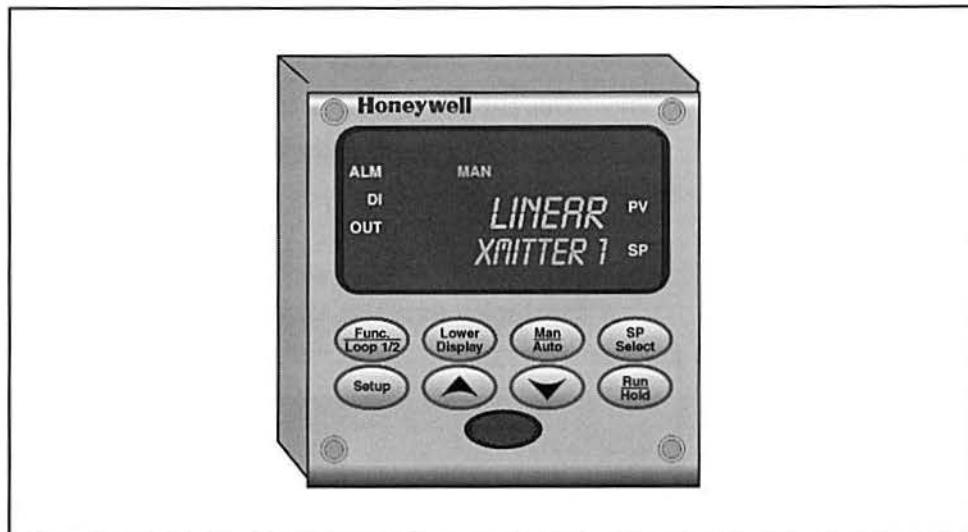

Figure 36. XMITTER Parameter Set to LINEAR
- E. Press the **Func Loop 1/2** key to move to the next parameter in the group, "XMITTER1," as shown in figure 36.
This parameter describes the type of transmitter. It should be set to LINEAR, as also shown in figure 36. This indicates that the sensor output varies linearly with the input.